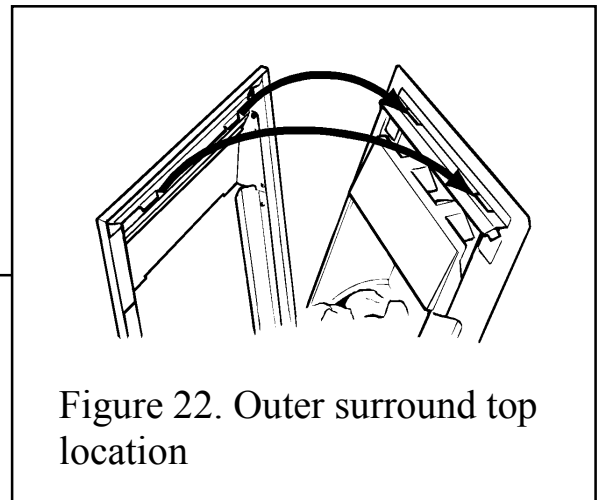

Figure 22. Outer surround top location
1. Pick up the outer surround. Locate the two lugs at the top of the front surround in the slots in the upper case support strip (See figure 22). Swing the bottom of the surround sides back against the convection box and lower the surround so that the lugs are fully seated in the slots in the convection box hood.